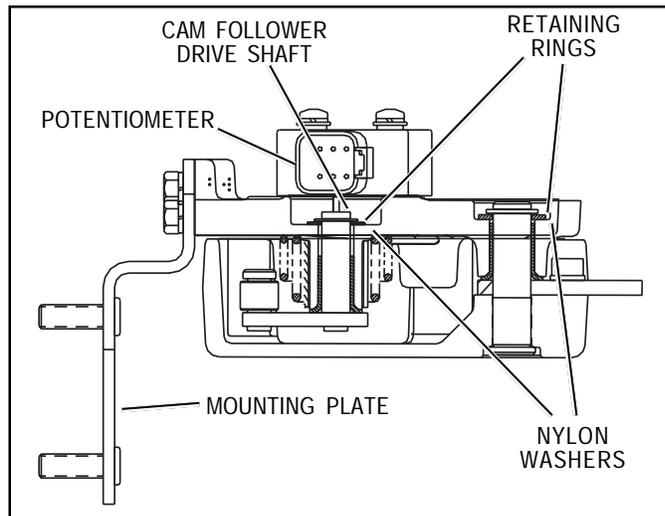

FIGURE 4 - TOP SECTIONAL VIEW
Important Note: DO NOT DISASSEMBLE THE ACTUATOR BODY. Replace the ET-S™ or ET-S2™ treadle if there is any binding, soft pedal actuation or if the nylon washers or retaining rings indicated in Figure 4 are cracked or have signs of deterioration.
2. (a) **For Detroit Diesel Potentiometers:** Align the drive slot, and engage the potentiometer the drive tang at the end of the drive shaft (see Figure 4). Rotate the
(b) **For Caterpillar Position Sensor:** Aligning the drive slot, the position sensor engages the drive tang at the end of the drive shaft (see Figure 4). Rotate the position sensor clockwise until the first set of mounting holes align. Secure using two screws : torque to 20 (± 2) in. lbs.